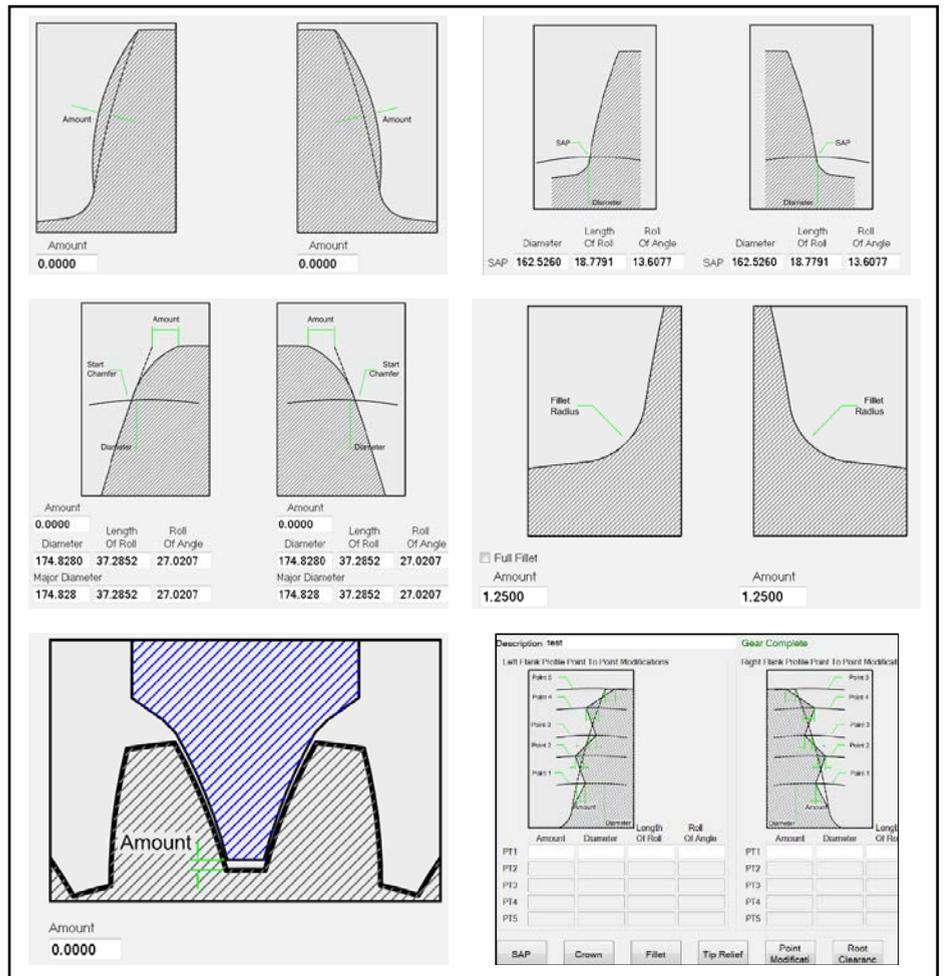
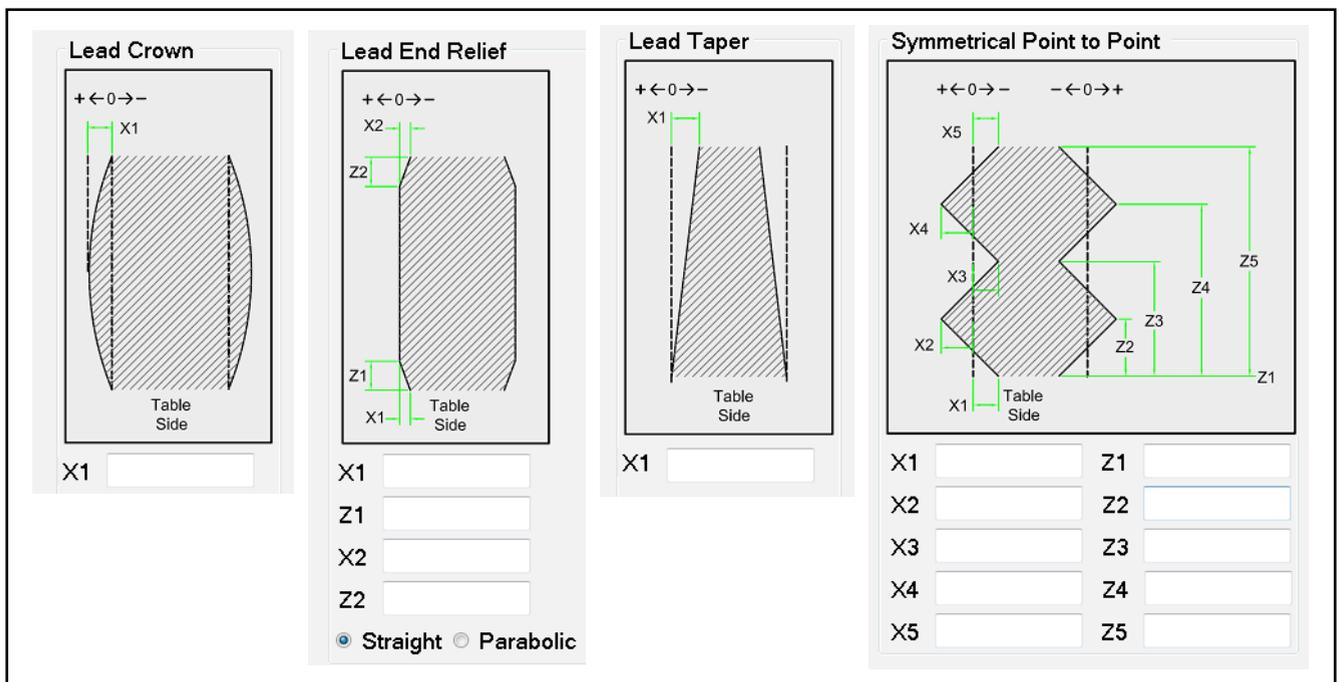

Figure 4 Various profile modifications and other details.
Figure 11 Symmetric lead modification.
**root geometry (Fig. 4):**
Figure 3 shows an example of the minimum basic gear data entry; there are only seven data entry fields. All other gear geometry characteristics — with the exception of modifications and root radius — can be derived from the basic gear data. An operator should not have to update additional data entry fields, unless the profile (Fig. 4) or lead modifications (Figs. 11–12) are required.
Figures 11 and 12 are examples of applications of these principles for designing data entry pages for symmetric and asymmetric lead modifications. Graphics provide visual explanation for achieving symmetric lead modifications by adding delta X-axis (center distance) travel in relation to Z axis (axial travel). Asymmetric lead modifications are achieved by adding delta C-axis travel (table rotation) in relation to Z (axial travel).